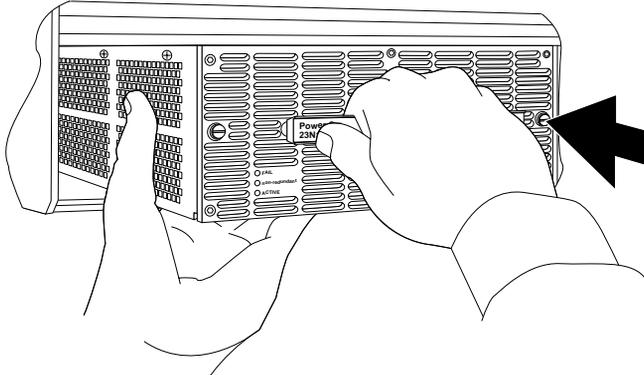

Figure 13. Inserting the PSAX 2300 Power Supply Module into the Chassis
- 1 Slide the Power Supply module into one of the large openings at the bottom of the chassis, and push it firmly until it snaps into the chassis backplane, as shown in Figure 13.